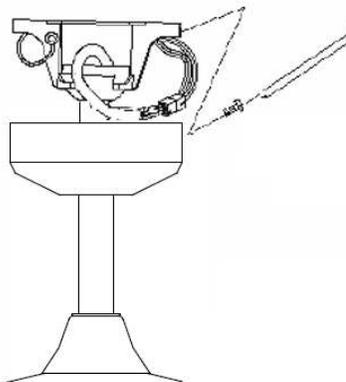

Fig. 10
- **Cover the mounting bracket with the canopy. Ensure all electrical wiring is tucked inside the canopy and that the wires are not damaged during this step. Secure the canopy to the hanger bracket using the screws provided.** (Fig. 10)